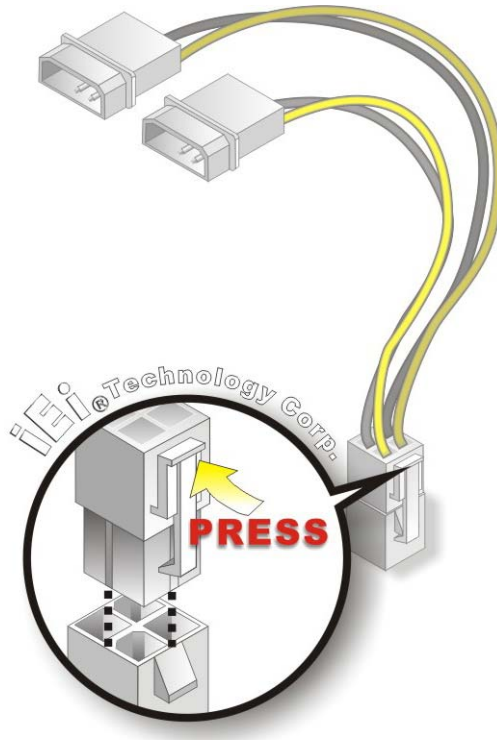

Figure 4-9: Power Cable to Motherboard Connection
Step 5: **Connect the Power Cable to the Motherboard.** Connect the 4-pin (2x2) Molex type power cable connector to the AT/ATX power connector on the motherboard. See Figure 4-9.